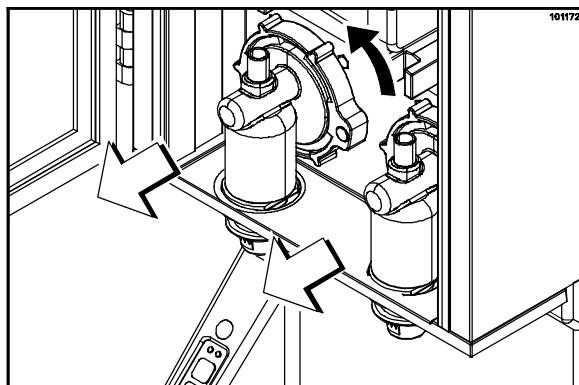

Figure 41
13. Turn both locking rings counter-clockwise and remove the pump heads. Stop at the 12:00 position. (See Figure 41.)